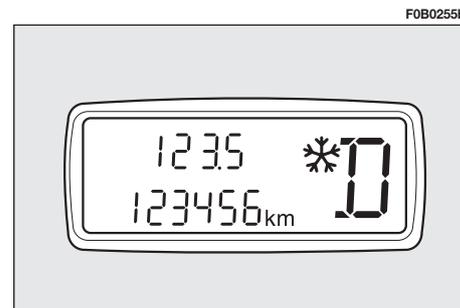

fig. 116
– Symbol ❄️ is displayed **fig. 116** and the car is started with the second gear.
The electronic automatic transmission failure is warned by the display of a dedicated message on the infotelematic display and symbol ❄️ flashing on the display **fig. 116**.